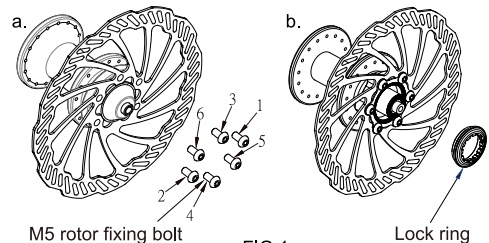

FIG.1
- a. Rotor Fixing Bolt: Place the rotor on the mounting surface of the hub, and make sure the arrow on the rotor is pointing in the same direction of rotation in which the wheel moves forwards. Fasten M5 rotor fixing bolts with Torx T25 wrench in sequence with tightening torque at 6-8 Nm. (Fig.1)
- b. Center lock: Place the rotor on the mounting surface of the hub and fasten lock ring by socket with tightening torque at 35-40Nm.(310-354 in. lbs) (Fig.1)